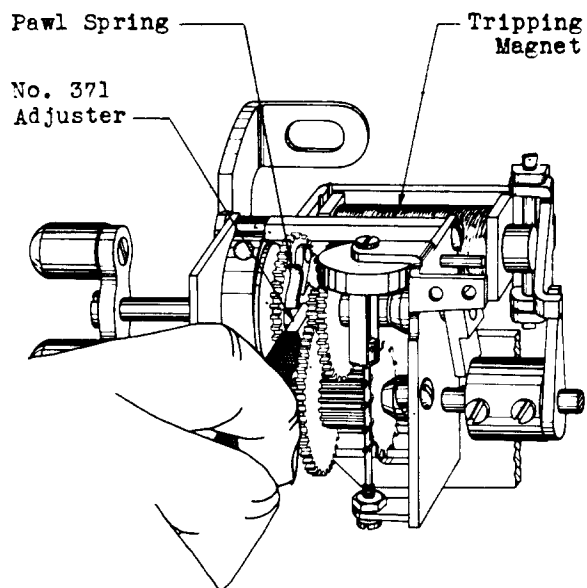

Fig. 15 – Method of Adjusting Pawl Spring with the No. 371 Adjuster
- (2) To adjust the tension of the pawl spring use the No. 371 adjuster applied as shown in Fig. 15.